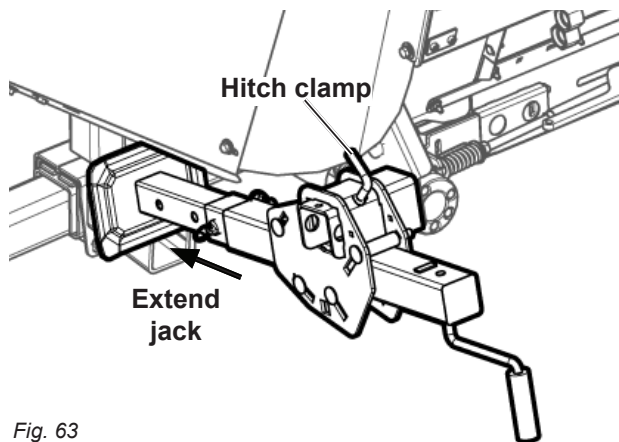

Fig. 63
3. Release the hitch clamp, remove the chain and slide the jack off the hitch tube. Store the jack as shown in Fig. 63, and tighten the clamp.